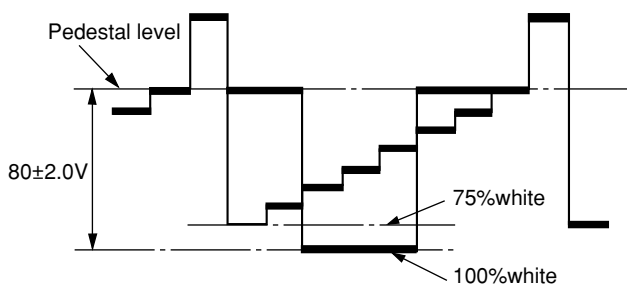

Fig. 3-2
2. Use the volume keys on the jig remote control to adjust so that the voltage to the pedestal level from 100% white is 80 ± 2.0 V, referring to Fig. 3-2.